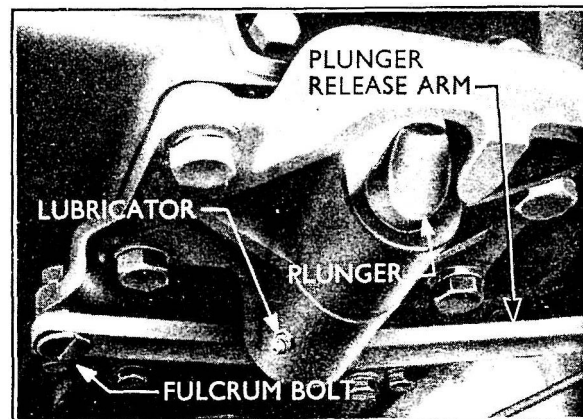

Fig. 3
A grease nipple is located in the underside of the locking plunger housing as shown in Fig. 3 and a good quality grease should be applied at this point at 50-hour intervals.
6. Remove the blanking plugs from the four holes in the base of the rear transmission housing. Locate the locking plunger and housing assembly in position under the housing, with the release arm to the front, and secure with four screws and spring washers (see Fig. 3).